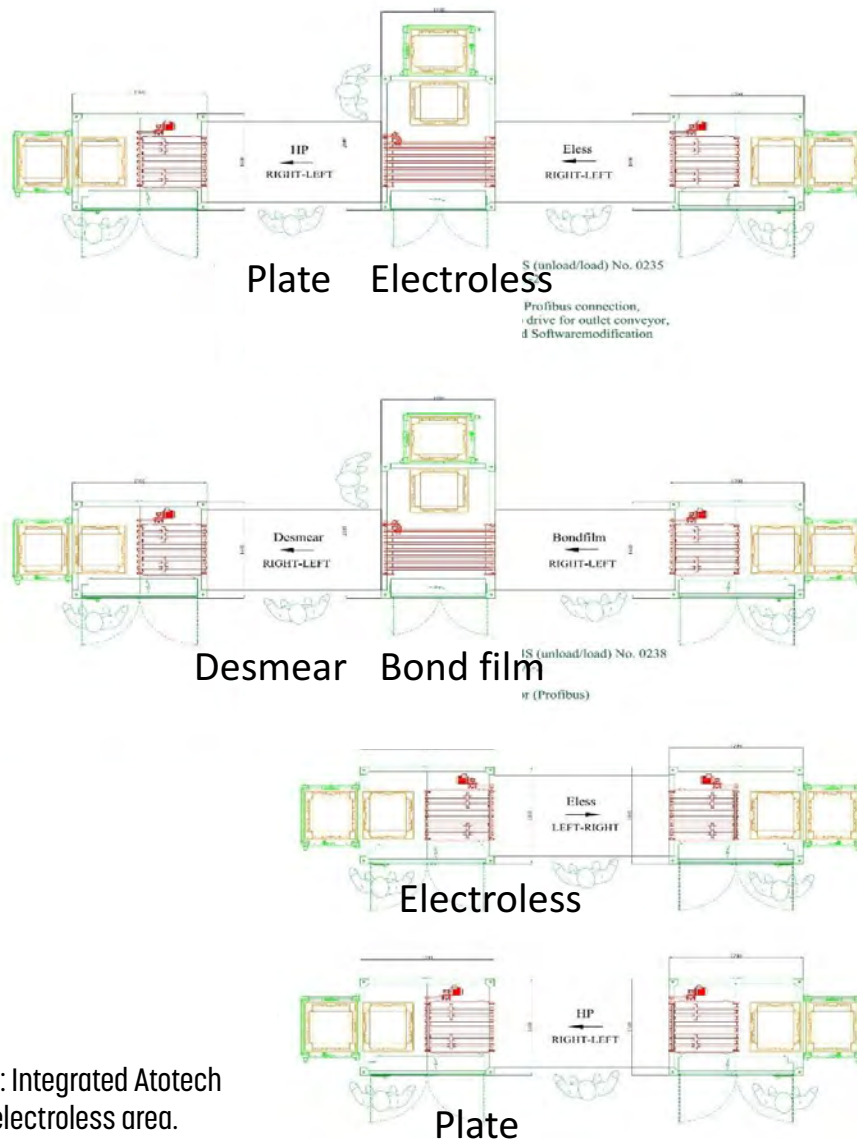

Figure 13: Integrated Atotech plating/electroless area.
5. The fully integrated horizontal Atotech plating area (Figure 13)